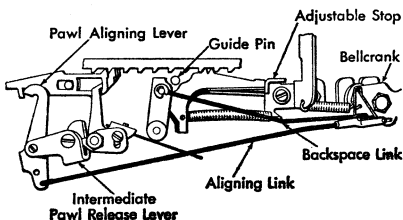

Figure 36. Aligning Link Adjustment
6. THE PAWL ALIGNING LINK is adjusted to fully align the pawls when the backspace cam is on its high point (Figure 36). Unhook the aligning link and place the backspace cam on its high point. Pull the aligning link to fully align the escapement pawls and match the pin in the clevis to the working side of the elongated hole in the backspace bellcrank. Check for full alignment at the high point of the backspace cam by checking for movement to the left by the escapement pawls when pulled or pushed with a spring hook. There should be no movement, but this may indicate over-alignment. In this case back off one-half turn on the aligning link and check the movement of the escapement pawls again to eliminate any choke-off.
b. Trip the backspace cam with the power off and rotate the power roll by hand while observing the 8 escapement pawl movement. When the 8 escapement pawl drops into the next rack tooth, the backspace pawl stop should be positioned to prevent any further movement of the backspace pawls (Figure 36).